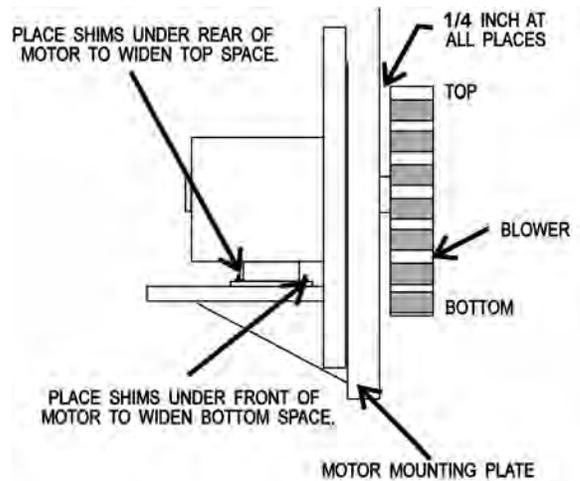

Fig. 26
2. Adjust the motor position until the blower is parallel to and 1/4 inch Fig. 26 away from the motor mounting plate. Check for squareness of blower to the motor mounting plate at the top, bottom, left and right of the blower.
2. Adjust position until blower is 1/4 inch from motor mounting plate (Fig. 26).